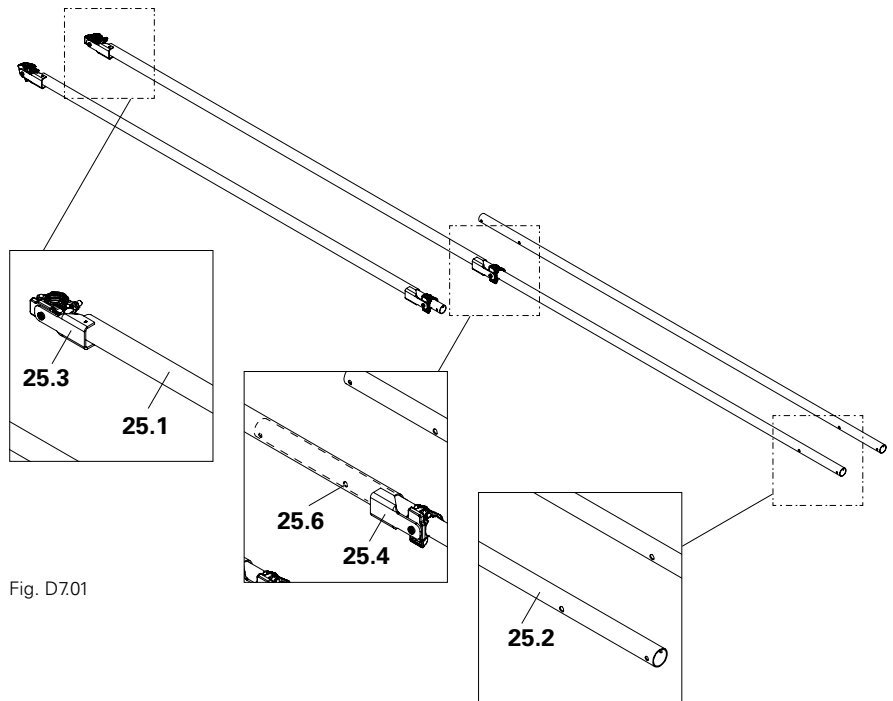

Fig. D7.01
- (Fig. D7.01)
- Maximum extension length 5.60 m. The second hole (25.6) in the inner tube must not be visible and must always be completely covered by the outer tube. (Fig. D7.01)